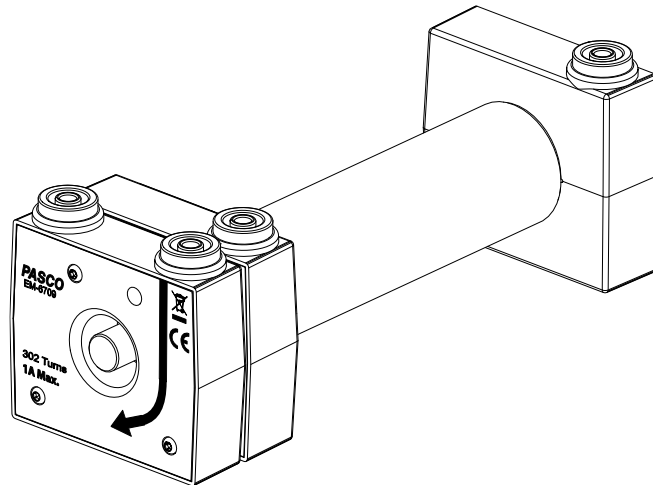

Figure 1: Outer coil with the inner coil and iron core inserted.
1. Insert the inner coil into the outer coil, then insert the iron core into the inner coil, as shown in Figure 1.